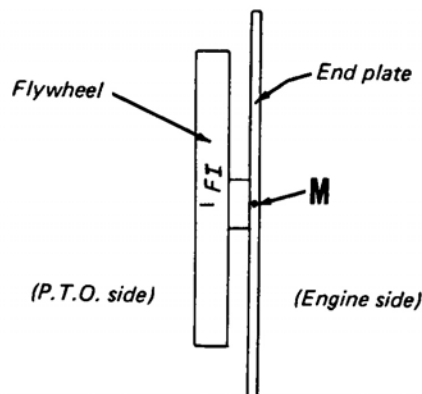

Fig. 27—View of "FI" injection timing mark on flywheel and timing mark (M) on end plate. Refer to text.
**37. INJECTION PUMP TIMING.** Start of injection should occur at 25° BTDC, or when "FI" flywheel timing mark aligns with end plate timing mark as shown in Fig. 27.